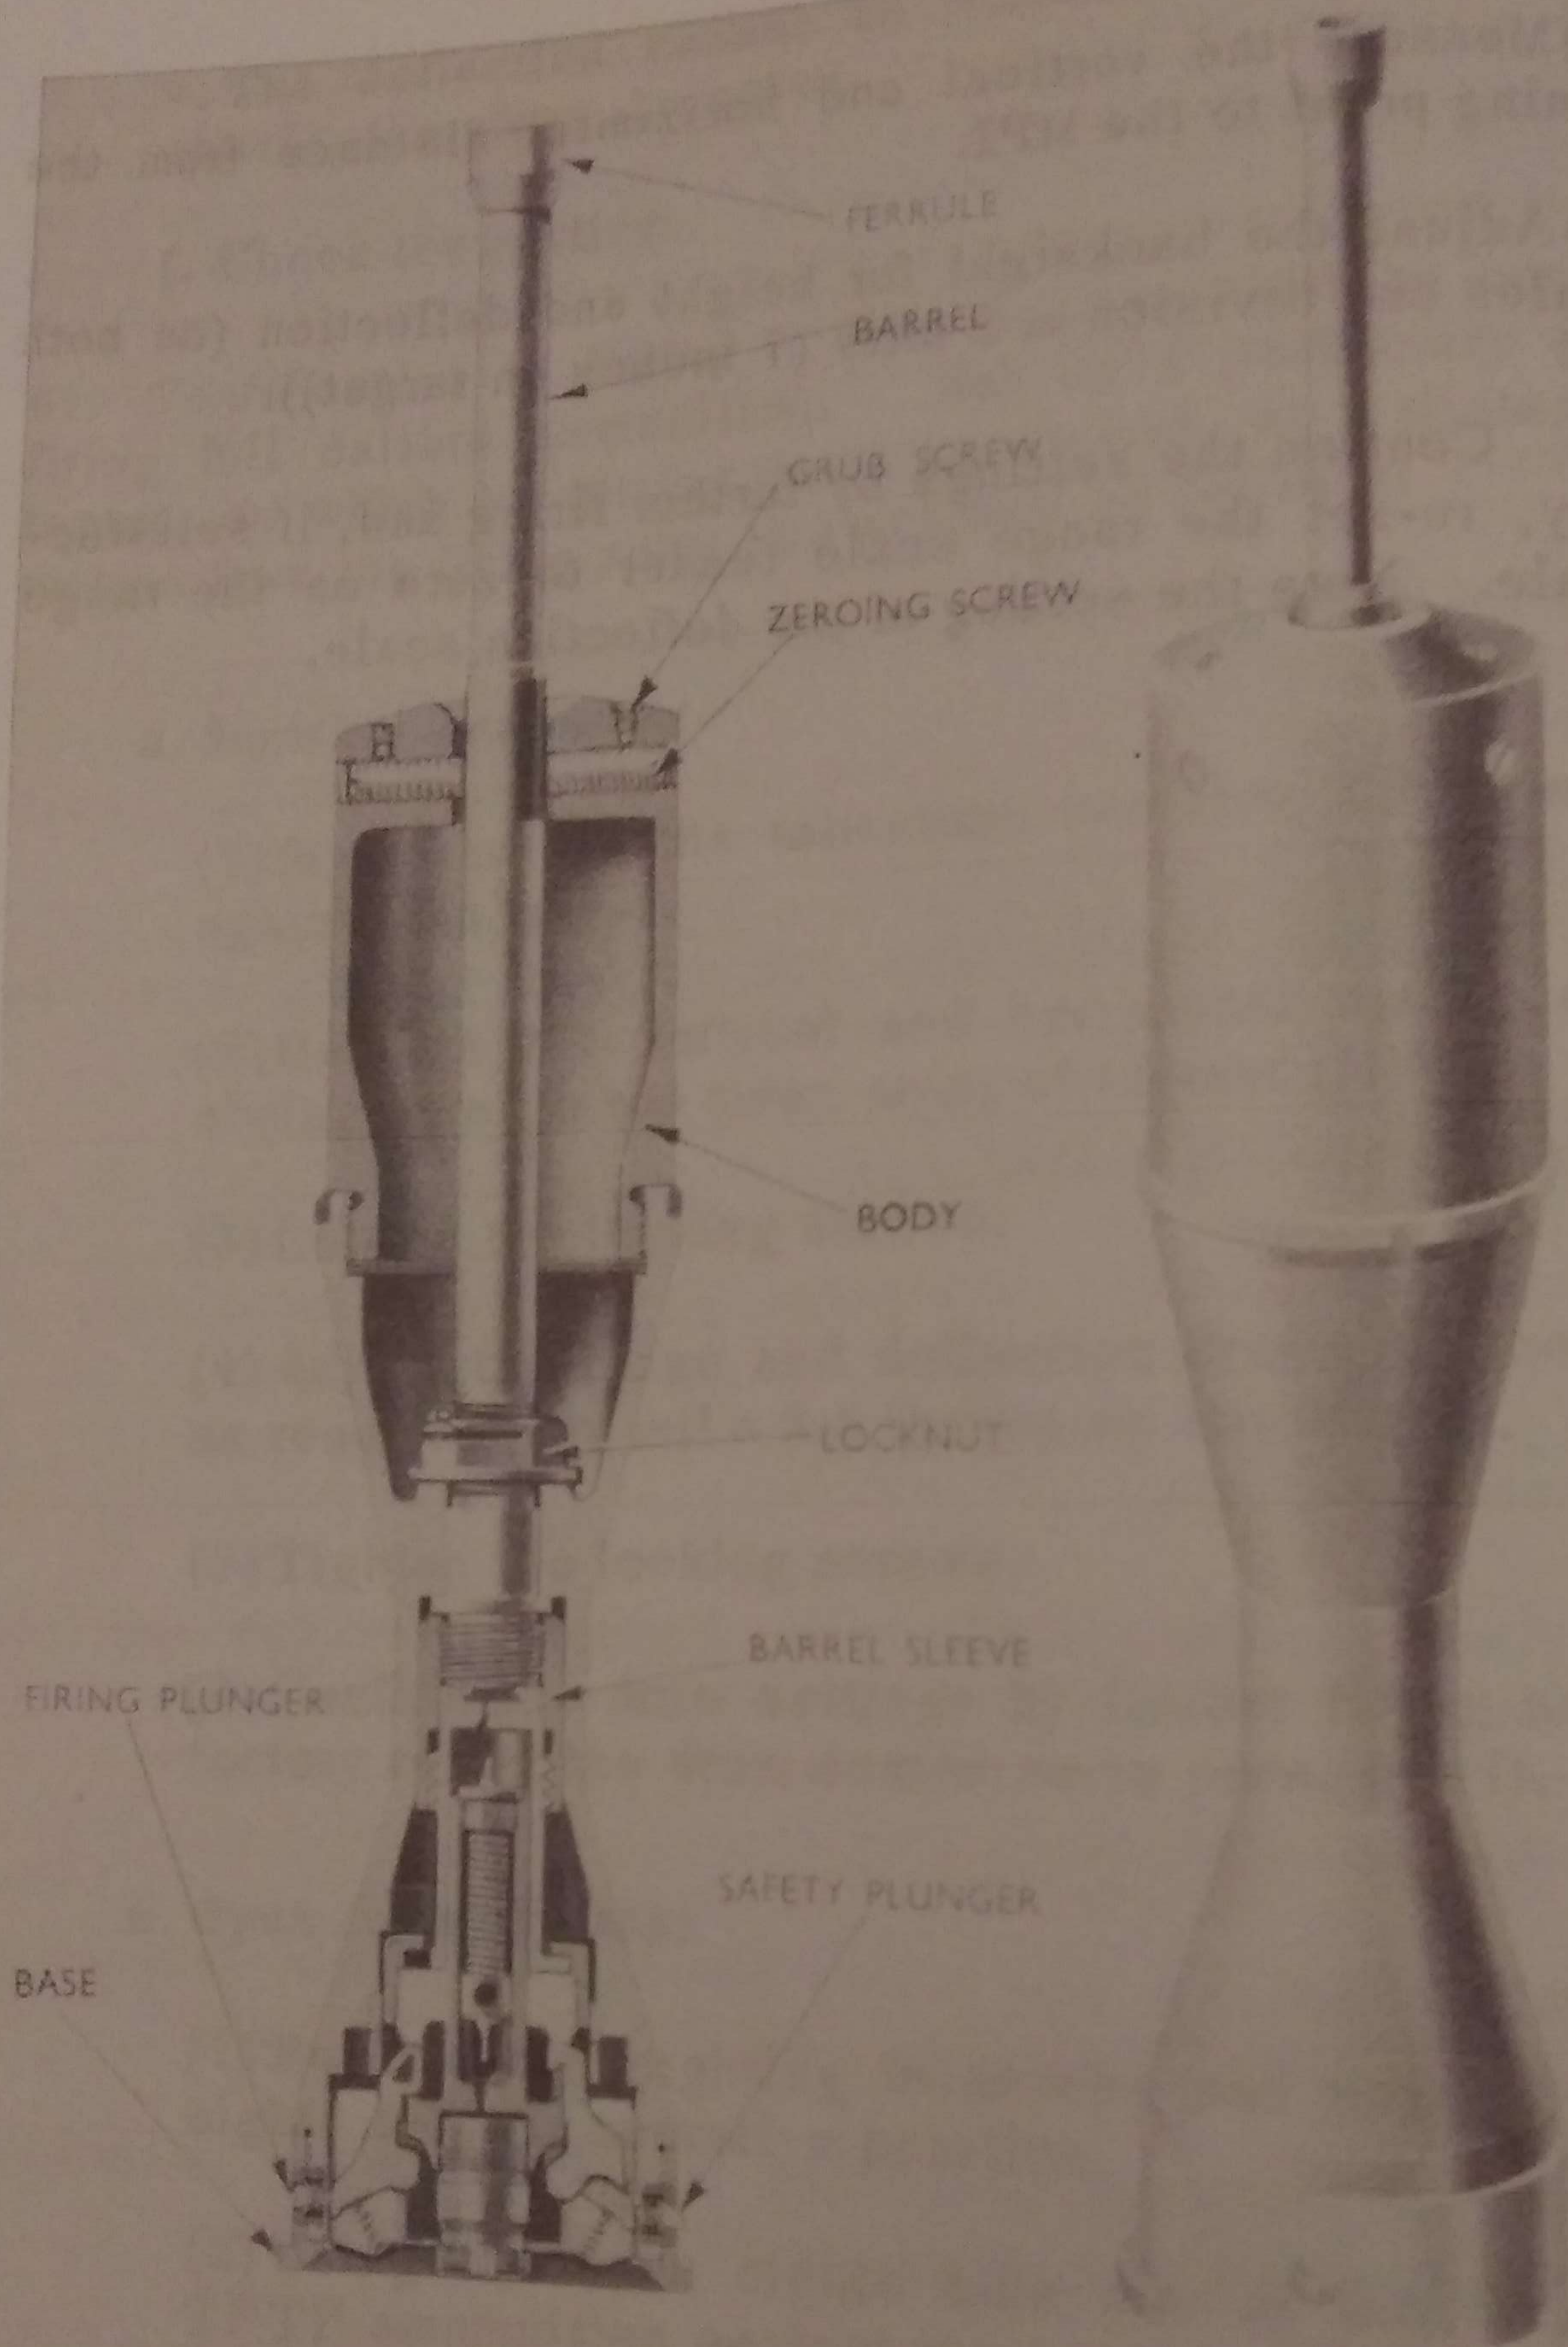

Fig 23 81mm Sub-Calibre Adaptor 1.1A1
63. *Body (L1A1 Adaptor).* The body of the L1A1 Adaptor (Fig 23) is of conventional bomb shape and is in two parts, screwed together at the rear end of the parallel portion. The rim at the base is identical with the rim of the full calibre cartridge case. Single and double lines, engraved on the base, respectively denote 'Safe' and 'Fire' settings for the firing mechanism. Forward of the rim, two diametrically opposite borings house the firing and safety plungers.